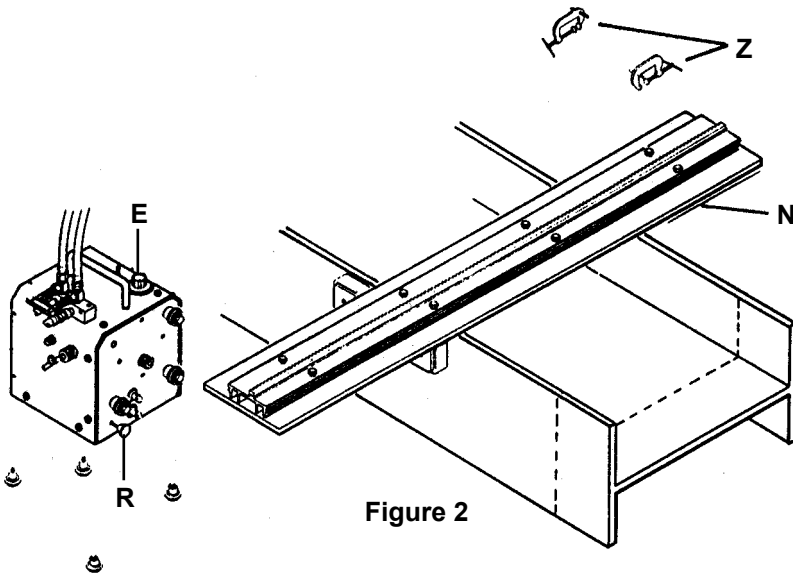

Figure 2
1. Accurately mark the line where the cut will be made on the beam. Install **Beam Rail (N)** approximately 8" (200 mm) behind this line (The rack teeth on beam rail should face away from line). Make sure beam is free of dirt, chips, and other debris which would prevent magnets or beam rail from setting flat and result in a crooked cut. Place **Beam Rail (N)** on the beam and adjust, making sure it is parallel to the layout line (parallelism is most important). Next install the two "**C**" **Clamps (Z)** to hold down end opposite magnets.(Ref. Fig. 2)
2. Depress **Clutch Knob (R)** and slide **BEAM BUG III** onto beam rail.
**NOTE:** **Clutch Knob (R)** faces away from rack teeth on beam rail. Be sure all four wheels are on the rail before starting. (Ref. Fig. 2)